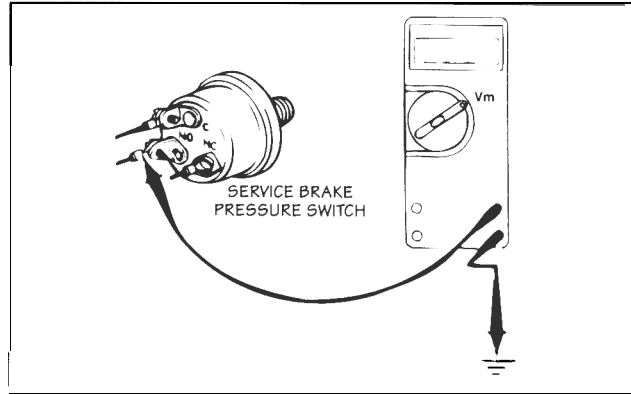

FIG. 1.1.15
**Correction:** Connect the positive (+) probe of the VOM to the normally open (NO) contact of the brake pressure switch and the negative (-) probe to ground. With the system activated, sufficient air pressure to activate the brake pressure switch, cruise control switch on, and clutch pedal up, the volt meter should read 5 volts (Fig. 1.1.15). With the service brake pedal depressed, the volt meter should read 0 volts. If these readings are not obtained, replace the service brake pressure switch.